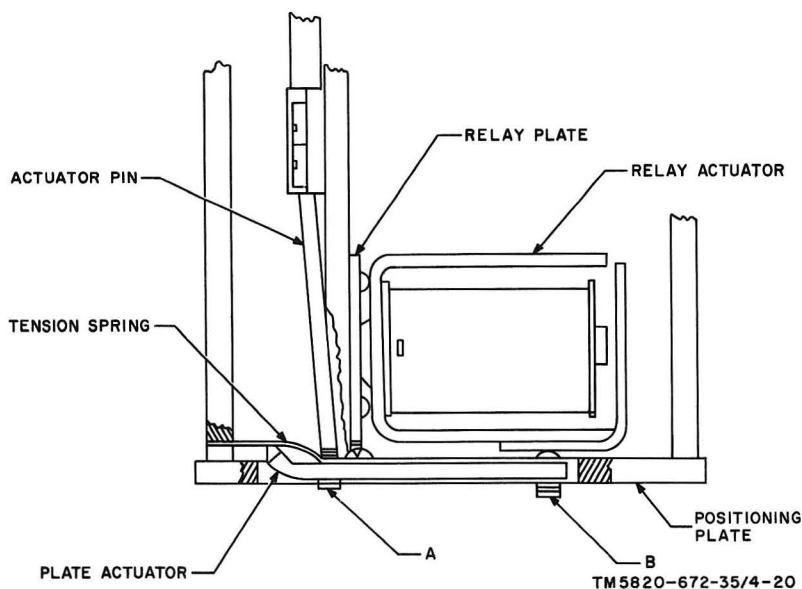

Figure 3-18. Brake adjustment points.
b. Adjustment Procedure. Adjust capacitor drive gear brake assembly as follows (fig. 3-18):
- (1) Adjust setscrew A, using Bristol wrench until plate actuator is approximately parallel with positioning plate.